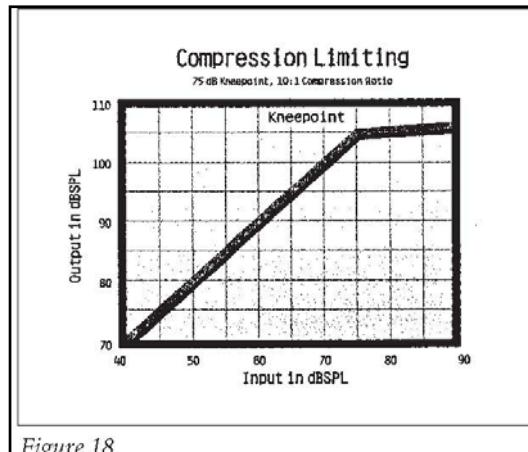

Figure 18
**Figure 18** shows the input/output curve of an instrument set to Compression Limiting (TK 75 dB SPL, CR 10:1). When there are high kneepoint levels and very high compression ratios, the input/output curves resemble those from linear Peak Clipping instruments.